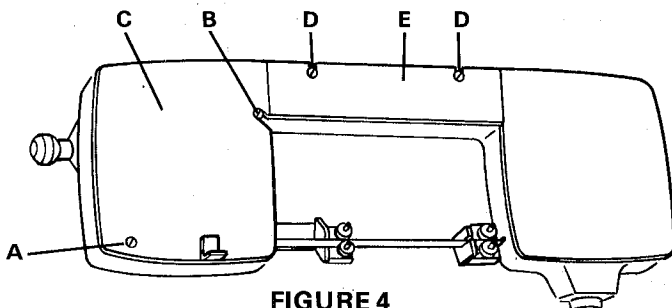

FIGURE 4
3. Loosen screws (A, B & D, Fig. 4) swing guard (C) out of way. Tighten screw A to hold guard. Slide guard E off screws D.